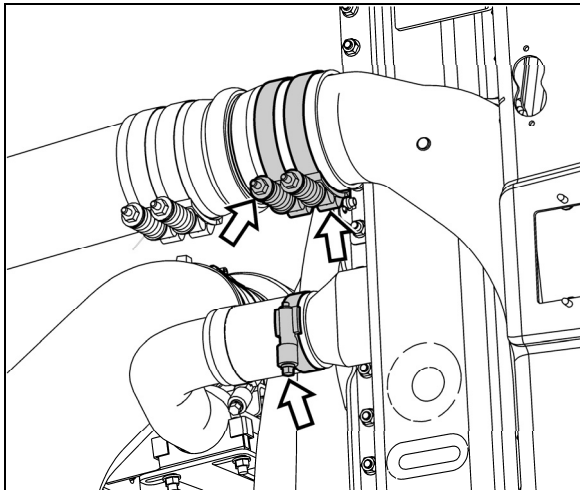

FIGURE 16: FRONT COOLANT & CHARGE AIR PIPES
10. Remove clamps and then break hoses from the front coolant and charge air pipes (Fig. 16).